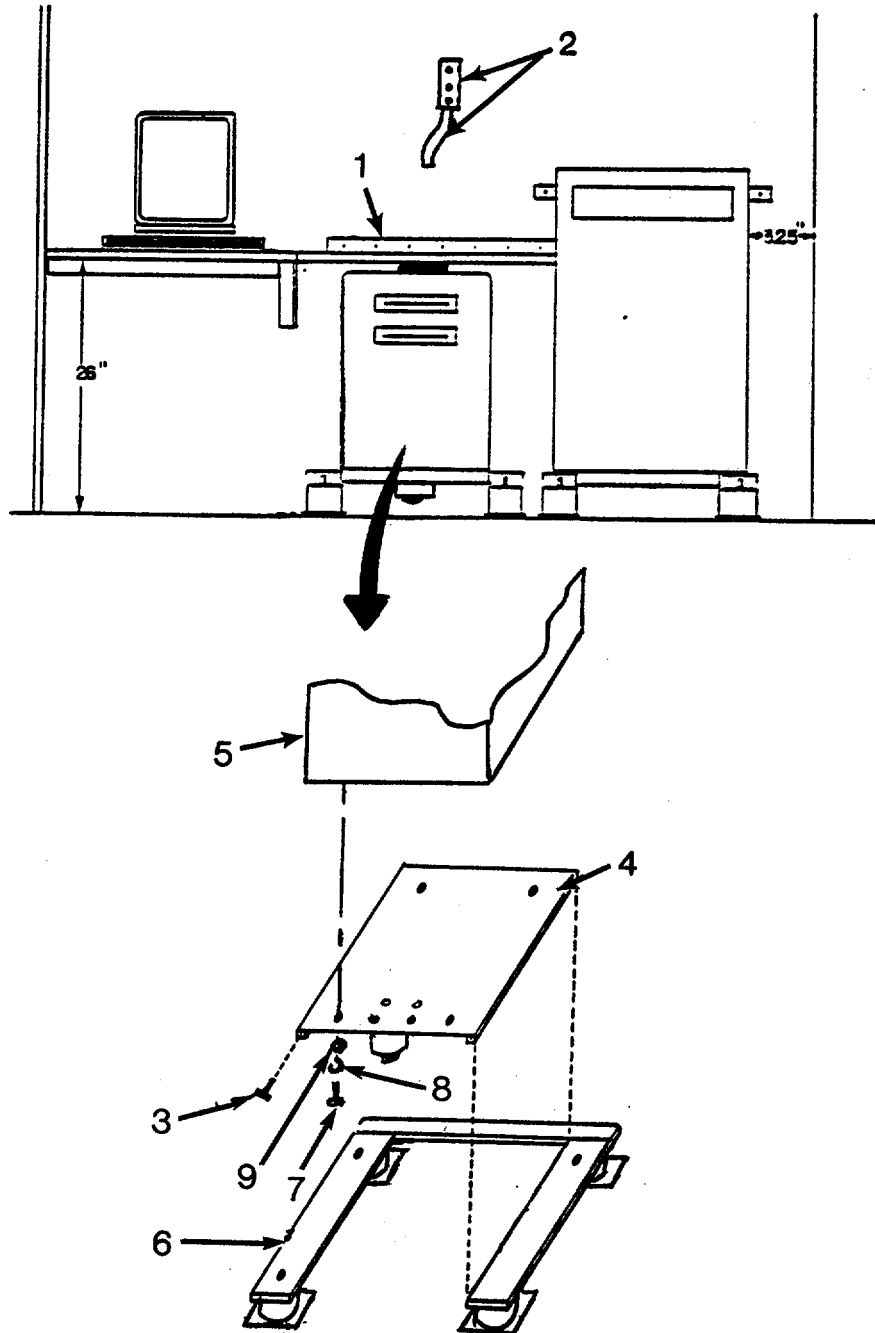

Figure 4-35. Controller Mounting
4-29. **PHOTOTYPESETTER ASSEMBLY.** - Continuede. Replace Controller. (See Figure 4-35.)
e. Replace Controller. - Continued (See Figure 4-35.)